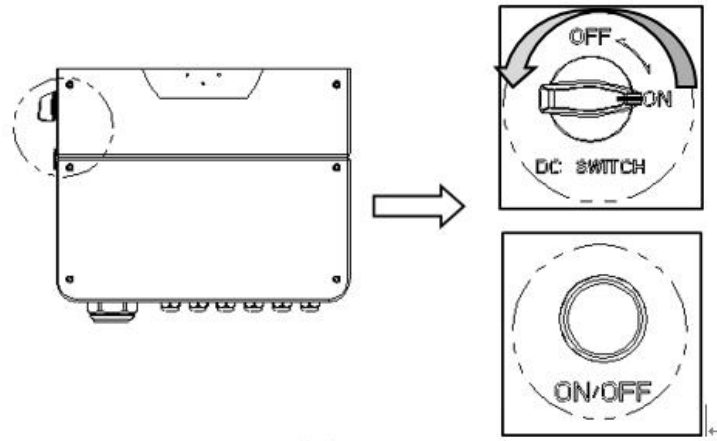

Figure 4.2.5
Step 6: Place the inverter DC switch to "OFF" and press the ON/OFF switch to turn off the system (Figure 4.2.5).